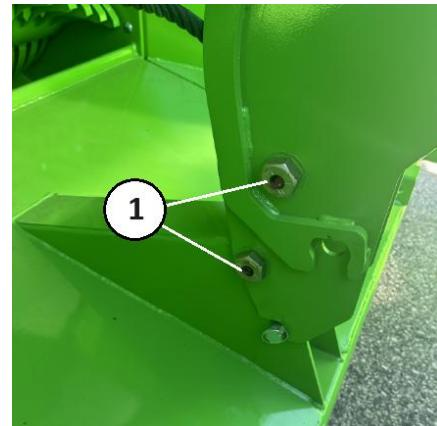

Figure 148. Anchor Support Fittings
At the anchor supports, locate a grease fitting at each of the two (2) pins on each support. See Figure 148.